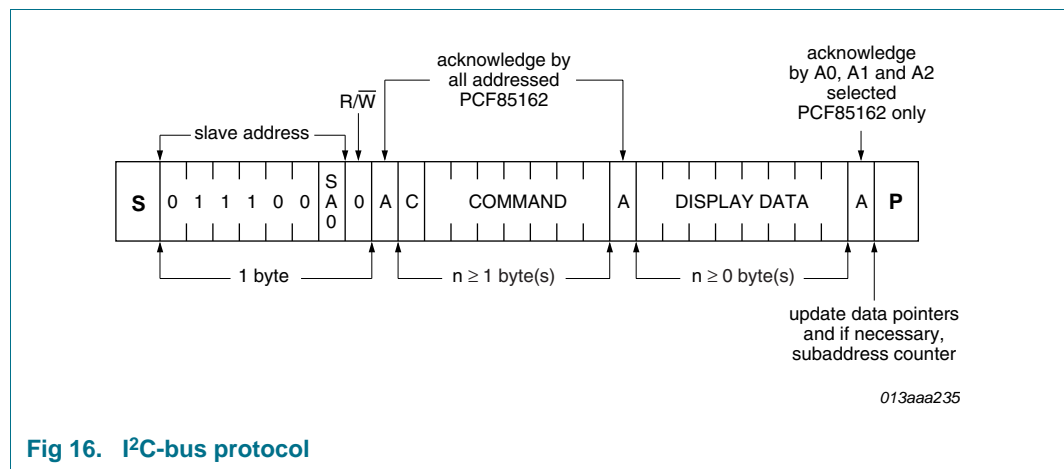

Fig 16. I²C-bus protocol
The I²C-bus protocol is shown in Figure 16. The sequence is initiated with a START condition (S) from the I²C-bus master which is followed by one of two possible PCF85162 slave addresses available. All PCF85162 whose SA0 inputs correspond to bit 0 of the slave address respond by asserting an acknowledge in parallel. This I²C-bus transfer is ignored by all PCF85162 whose SA0 inputs are set to the alternative level.